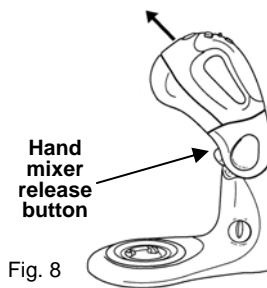

Fig. 8
- Then press the mixer release button which is located on the under side of the pivot support with one hand and with the other lift the hand mixer by the handle upwards and away from the support pivot. (Fig. 8)